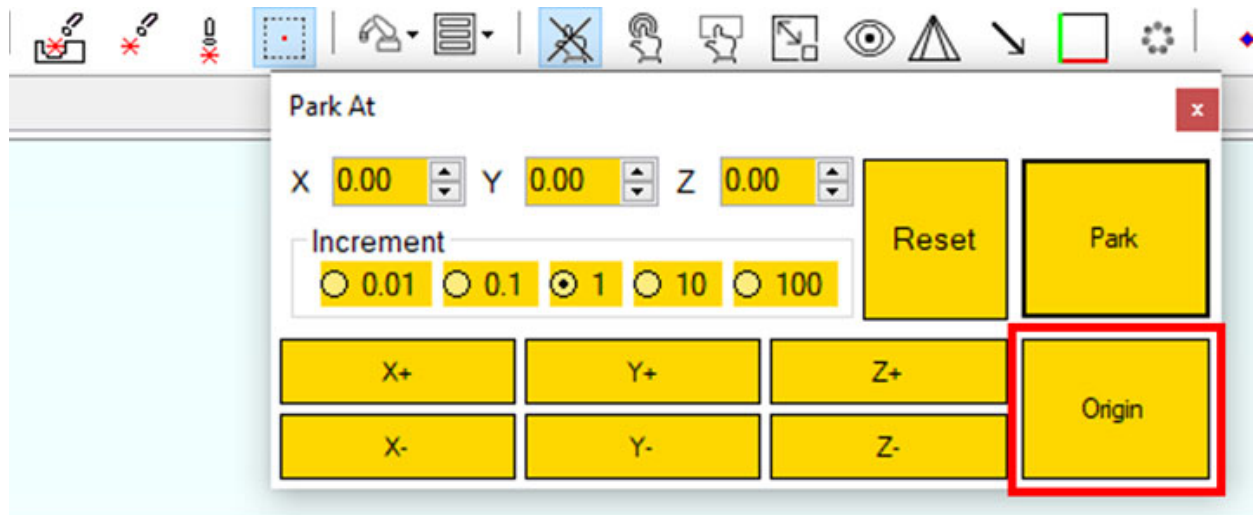

Figure 285: Using "Park At" to Position the Galvos at 0, 0, 0 in the Scanners FOV
- b. Please note, to most accurately locate the robots TCP at the defined point on the part or fixture, it is recommended that users utilize a camera or LDD unit. It also is recommended that users have setup the robots TCP at 0, 0, 0, in the scanner's FOV (as outlined in the "Robot and IPGScan Calibration" reference document). By adhering to both of these recommendations, users can enable the "Park At" feature and park the galvos at 0, 0, 0, in the scanners FOV (see Figure 285).